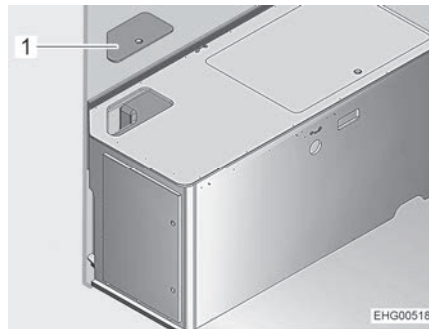

Fig. 162 Bedding box on the left
- Remove the service cover (Fig. 162,1).